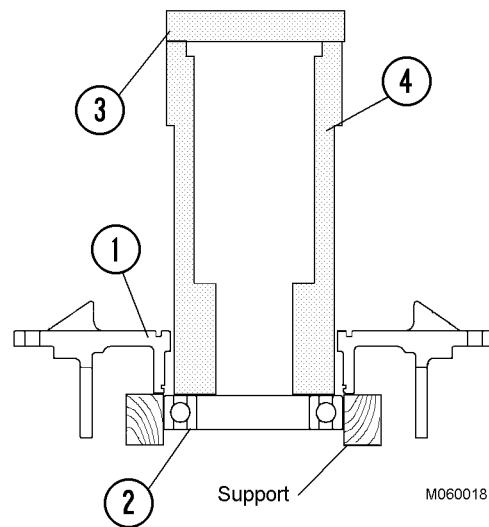

FIGURE 6-18. FRONT BEARING REMOVAL
12. Setup front bearing retainer on a press with supports under the retainer and spaced to allow bearing to drop out of bore as shown in Figure 6-18.
- a. Place tool # 2 on front bearing (2).